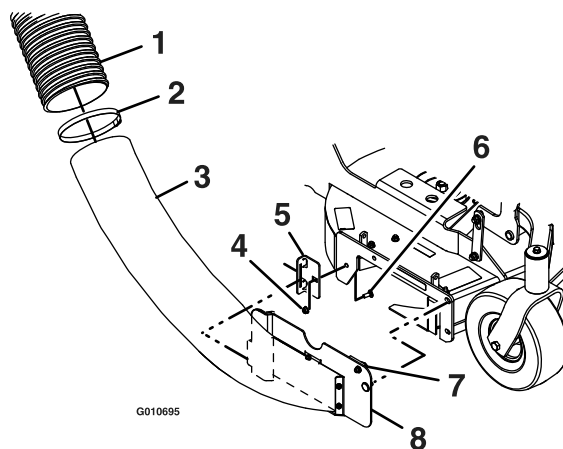

Figure 6
3. Remove the bagger mount bracket from the deck and retain all hardware see Figure 6.
6. Insert the mount bracket tab on the lower tube assembly into the boot mount bracket as shown in Figure 6.